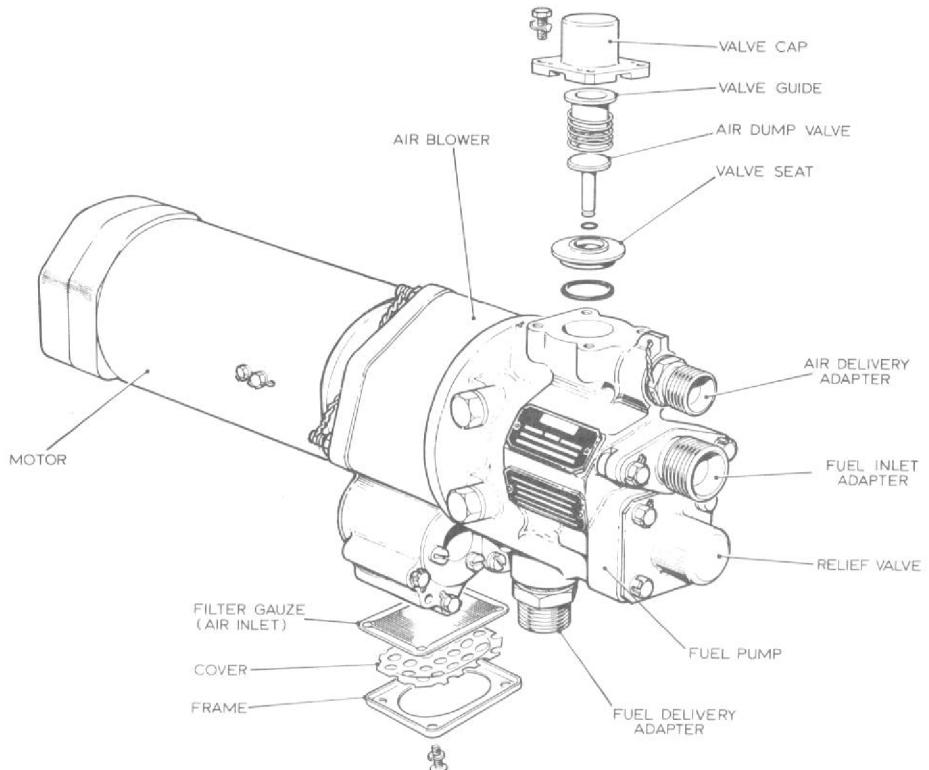

Fig.3 Motor, air blower and fuel pump
(9) Examine the spring. Damage or distortion will entail rejection.
(10) Position the air valve in the guide, then locate the spring, over the stem, in the guide.
(11) Position the retaining plate, flange first, on the spring, then depress the plate and fit the retaining washer to the groove in the valve stem.
(12) Release the retaining plate ensuring that the washer locates in the bore of the plate.
(13) Position the air valve assembly, seat first in the atomizer air inlet port, then locate the 'O' ring seal in the recess formed round the valve guide.
(14) Position the backing washer on the seal and secure with the valve sleeve.
(15) Using special spanner, Table 1 item 2, fully tighten the sleeve, then locate the lock plate, spigot first and bolt holes aligned, on the valve sleeve splines.
(16) Fit the two 'O' ring seals to the air valve sleeve, then assemble the air hose to the sleeve and fit the bolts and new tab-washers.
(17) Torque tighten the bolts to the specified figure (Table 2) then lock by bending up the tabwashers.
(18) Install the engine as described in Sect.4, Chap.1.
**Clean and examine the air blower filter (fig.3)**
16. (1) Remove the fuel pump air blower motor unit as detailed in para.19.
(3) Clean the filter gauze in cleaning fluid, Table 1 item 11, then dry with clean dry compressed air.
(4) Examine the filter gauze; damage and/or corrosion will entail rejection.
(5) Position the cover and the filter gauze in the frame, then locate the frame on the air blower inlet port.
(6) Secure the frame with the screws and spring washers; fully tighten the screws.
(7) Install the fuel pump, air blower motor unit as detailed in para.20.
**Renew the air dump valve seals (fig.3)**
17. (1) Remove fuel pump air blower motor unit as detailed in para.19.